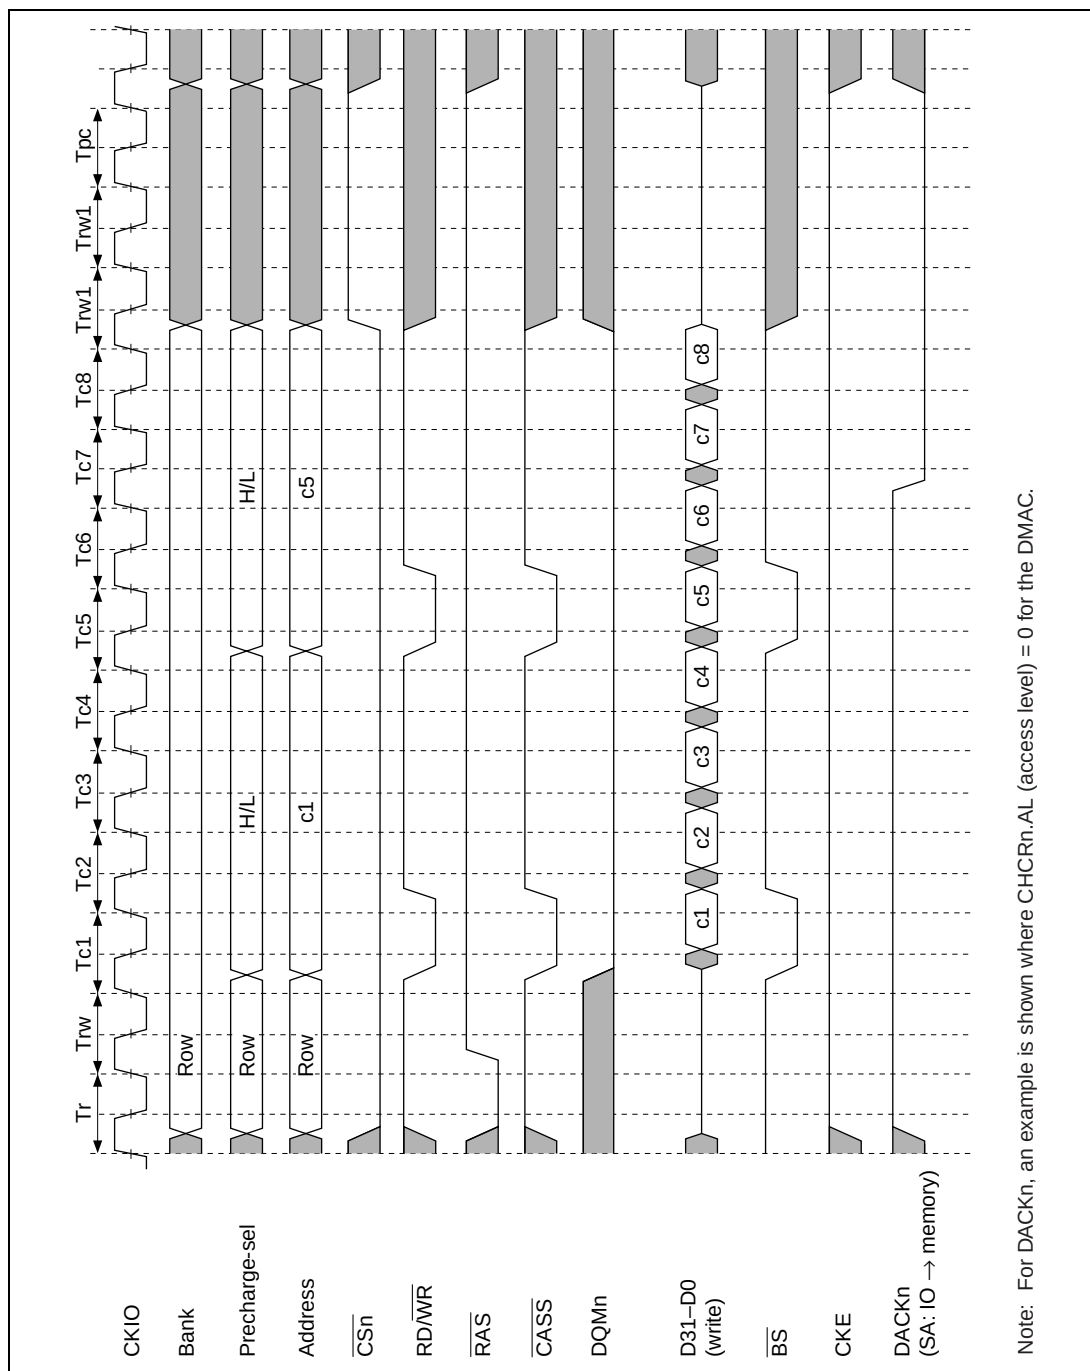

Figure 13.26 Basic Timing for Synchronous DRAM Burst Write
**Burst Write:** The timing chart for a burst write is shown in figure 13.26. In the SH7751 Series, a burst write occurs only in the event of 32-byte transfer. In a burst write operation, the WRIT command is issued in the Tc1 cycle following the Tr cycle in which the ACTV command is output and, 4 cycles later, the WRITA command is issued. In the write cycle, the write data is output at the same time as the write command. In the case of the write with auto-precharge command, precharging of the relevant bank is performed in the synchronous DRAM after completion of the write command, and therefore no command can be issued for the same bank until precharging is completed. Consequently, in addition to the precharge wait cycle, Tpc, used in a read access, cycle Trwl is also added as a wait interval until precharging is started following the write command. Issuance of a new command for the synchronous DRAM is postponed during this interval. The number of Trwl cycles can be specified by bits TRWL2-TRWL0 in MCR. Access starts from 16-byte boundary data, and 32-byte boundary data is written in wraparound mode. DACK is asserted two cycles before the data write cycle.